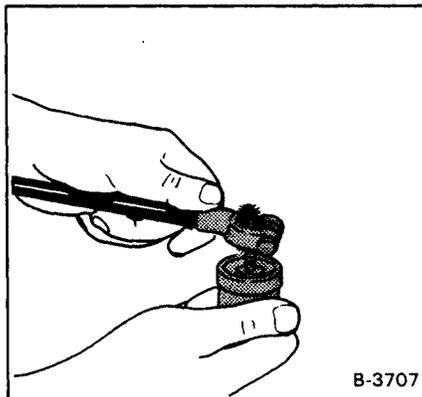

Fig. 1-28 Cleaning Battery Terminals
- (3) Clean the terminals (Fig. 1-28 and 1-29) on the new battery.
- (4) Install the new battery and install the holddown clamp.
- (5) Install and tighten the battery cables. Connect the ground (negative) cable last to prevent sparks.
- (6) Install the terminal covers.